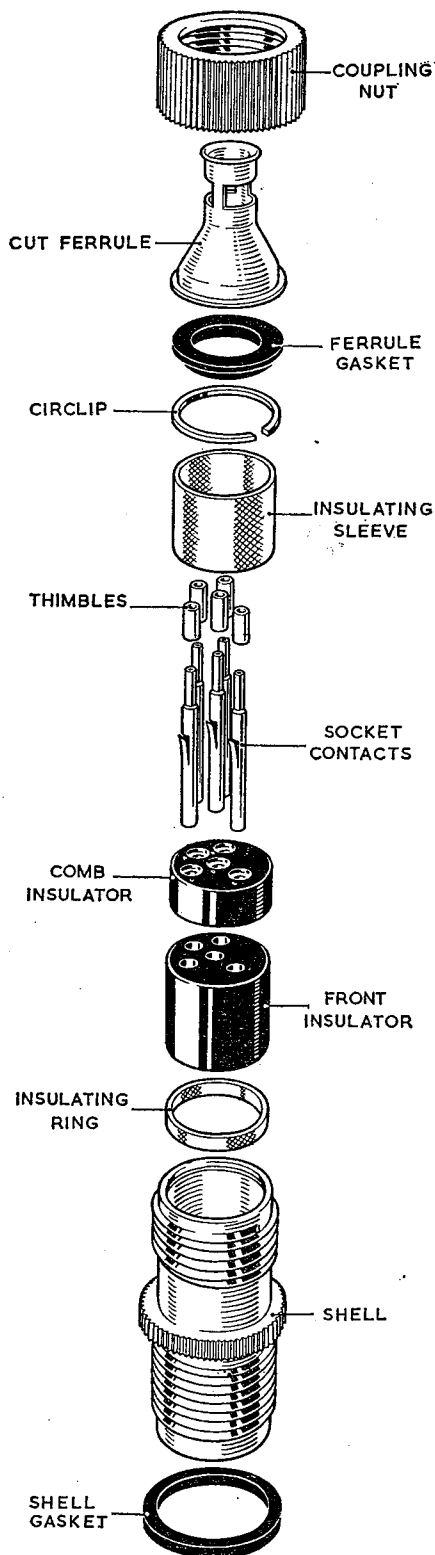

Fig. 6. Free unit (exploded) with coupling nut and cut ferrule, climatic-proof
15. Units at stage 3 (fig. 6 and 8) differed from those at stage 2 in that the shell rim and the coupling nut have straight knurls. The use of a comb insulator in this type restricts the use of the unit to
Cut ferrule (round base) (Table 37 and fig. 6)